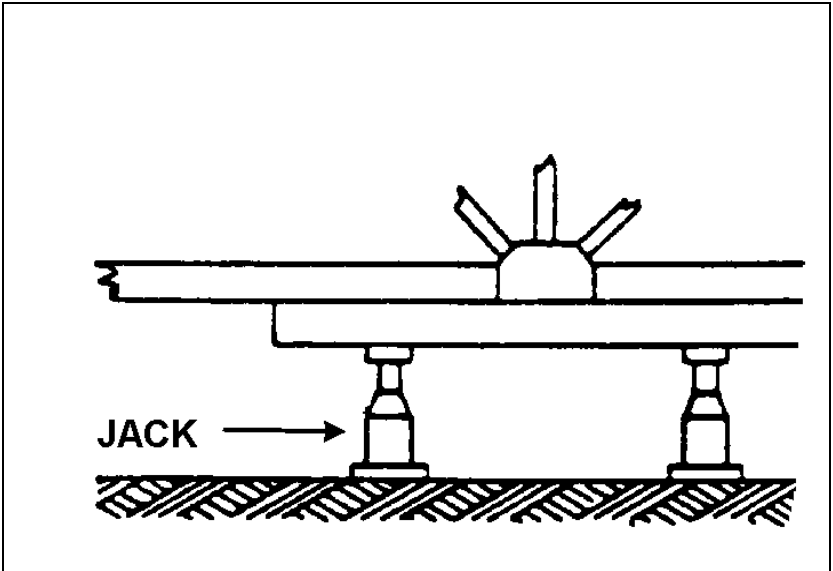

Fig 14-4-5 Distributing a Jacking Load
- e. if the load is too great for one jack, or the girder member will not stand up to the concentrated load at the jacking point, the load is distributed with a jacking beam, as shown in Fig 14-4-5;